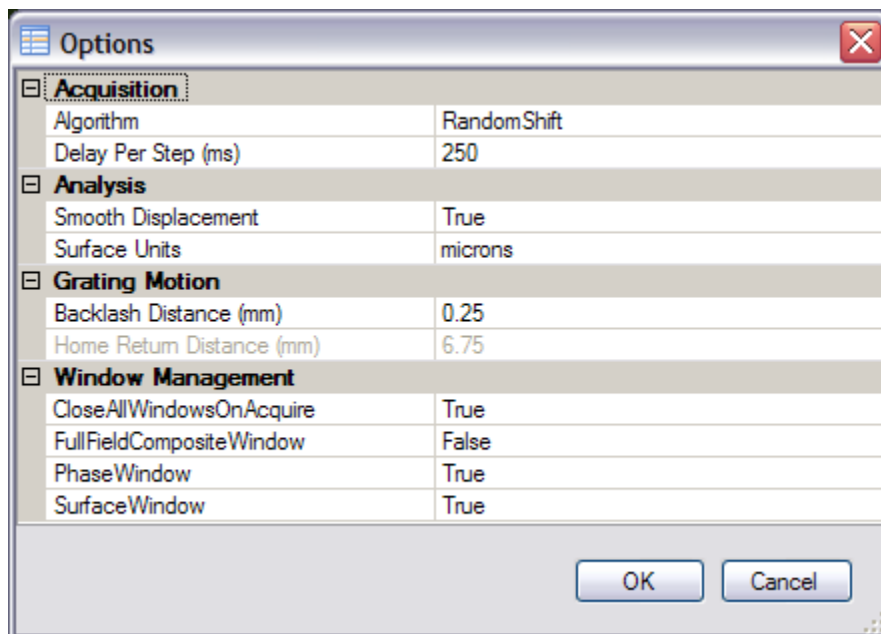

Figure 3.2 MP10 Options Dialog
In the **Options** window (**Figure 3.2**), there are a few different parameters when compared to normal Surface Measurement:
1. In this window, the current position of the grating stage is displayed in millimeters. Each time the program starts, this number will be initialized as the value set for **Home Return Distance** item in the Options window (**Figure 3.2**).